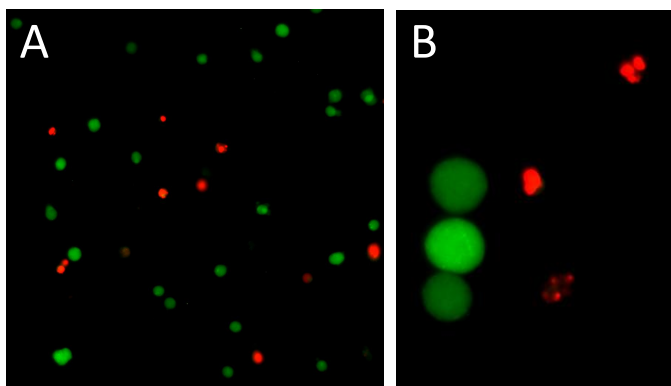

Figure 1. Jurkat cells stained with the live and dead assay kit.
- a. Green = live cells; Red = dead cells. See Figure 1 below.